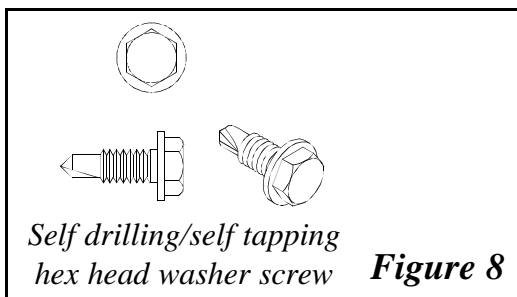

Figure 8
- If holes in VSF post are not present, temporarily secure the IDL profile with vice grip - C-clamps to the VSF post so that holes in profile are centered to the VSF post. You can use self-drilling/self-tapping hex head washer screws #12 x 3/4" (i.e. tech screws) (See Figure 8).